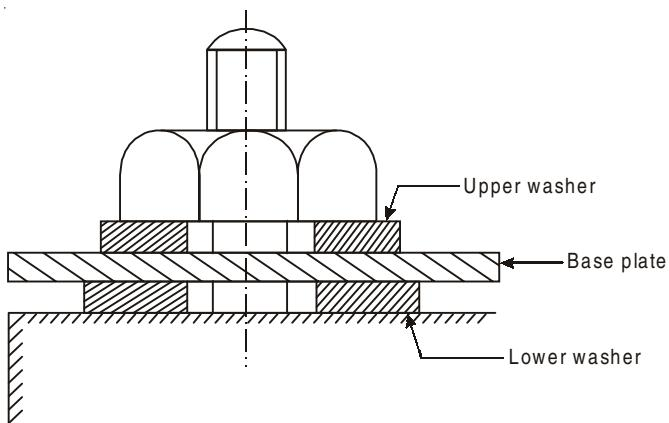

Fig. 1.31
- 1.59. A rectangular base plate is fixed at each of its four corners by 20 mm diameter bolts and nuts as shown in Fig. 1.31.
- 1.77.** A composite bar is made up by connecting a steel member and a copper member rigidly fixed at their ends as shown in Fig. 1.31. The cross-sectional area of the copper member is A mm 2 while that of the steel member is $2A$ mm 2 for half the length and A mm 2 for the other half its length. The coefficients of expansions for steel and copper are α_s and $1.3\alpha_s$ respectively, while the elastic moduli are E_s and $0.5E_s$ respectively. Estimate the stress induced in the members due to temperature rise of t degree.